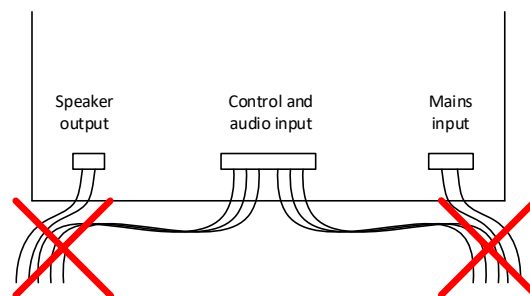

Figure 34: Wire bundling
- Do not bundle mains wires together with other cables (Figure 34).
- Do not bundle speaker wires together with other cables (Figure 34).